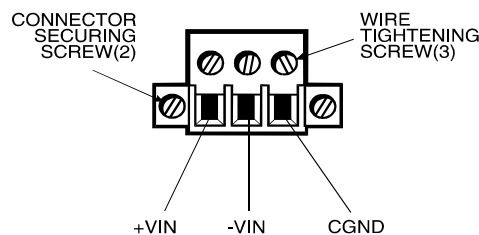

Figure 3-6. DC Power Connector
4. Insert the three wire ends of the power cable into the three holes of the block plug. Insert the Protective Earth GND ground, + (positive), and - (return) wires into the corresponding holes, as shown in Figure 3-6. Be sure that no bare wires are exposed.